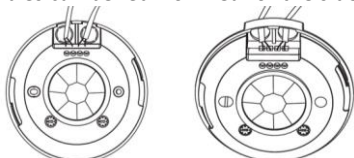

Figure 2 Rear cable entry
2. Feed the supply and load cables through the cable entry knockouts. Cables can be fed from rear or the side (Figure 2).